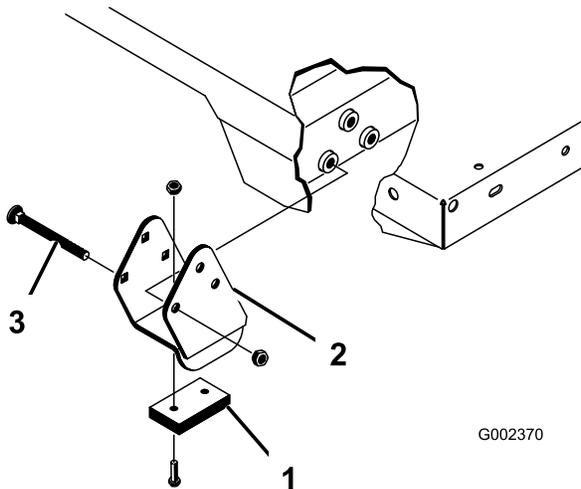

Figure 36
Note: Ensure that the spacer brackets and wear blocks (Figure 36) are installed with the carriage bolt heads positioned inside the machine.
rear frame channel and install 2 clevis pins and lynch pins (Figure 36).
- With the bed lowered, secure each cylinder rod end, to the appropriate slots in the bed mounting plates with a clevis pin and lynch pin. Insert the clevis pin from outside of the bed with the lynch pin toward the outside (Figure 36). The rear slots are for a full bed installation and front slots are for a 2/3 bed installation.